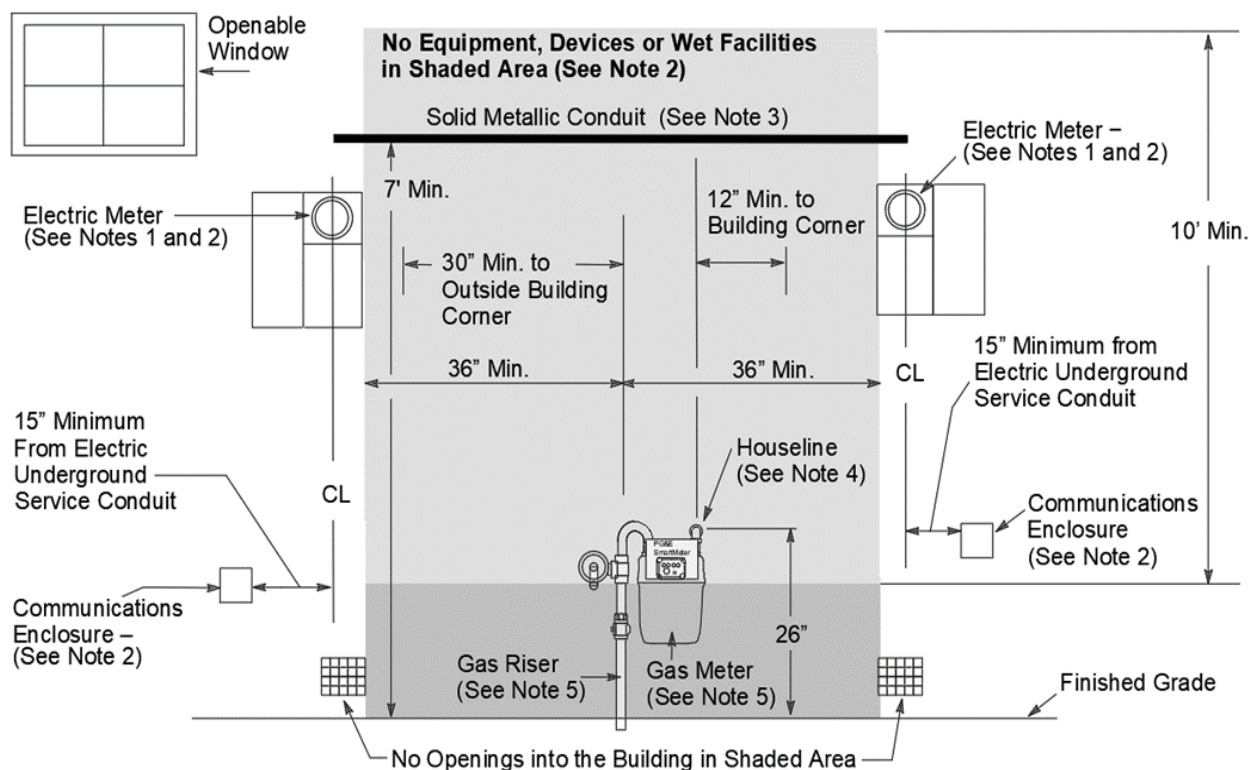

Figure 4. Gas Meter Set Separation Dimensions and Clearances
- (1) The regulator vent must not terminate near any sources of ignition or openings into the building. The riser must be a minimum distance of 36 inches from sources of ignition, electrical equipment, and openings into the building, and this clearance area extends 10 feet above and 36 inches below the regulator vent termination. (See Figure 4.)
- (2) For a large meter set or multi-meter manifold, the clearance requirement is 36 inches from the riser and extends 12 inches beyond the furthest Company meter set equipment, 10 feet above the highest regulator vent, and 36 inches below the lowest regulator vent.
- (3) No wet facilities, such as water pipes, downspouts, sewers, or drainage pipes are allowed in the gas meter set clearance area.
- (4) These clearance distances extend around outside corners.
B. Notes in reference to Figure 4:
- (1) Company electric meter panel locations are subject to utility approval and must comply with the applicable code requirements. Electric meter clear and level workspace will be enforced per the Greenbook (Manual TD-7001M), Section 5.
- (2) Applicants must not install any sources of ignition or electrical devices or equipment, including wires, cables, metering enclosures, telecommunication enclosures, bond wires, clamps, or ground rods within the shaded area around the gas meter.
- (3) A solid and continuous metallic conduit without couplings, joints, or connections is allowed to run completely through the shaded area at 7 feet or higher above the finished grade.
- (4) Place the gas service riser 6 inches to 9 inches from the finished wall. The completed customer houseline at the service delivery point extends 4 to 9 inches out from the finished wall where the meter is to be set and 26 inches above the finished grade.